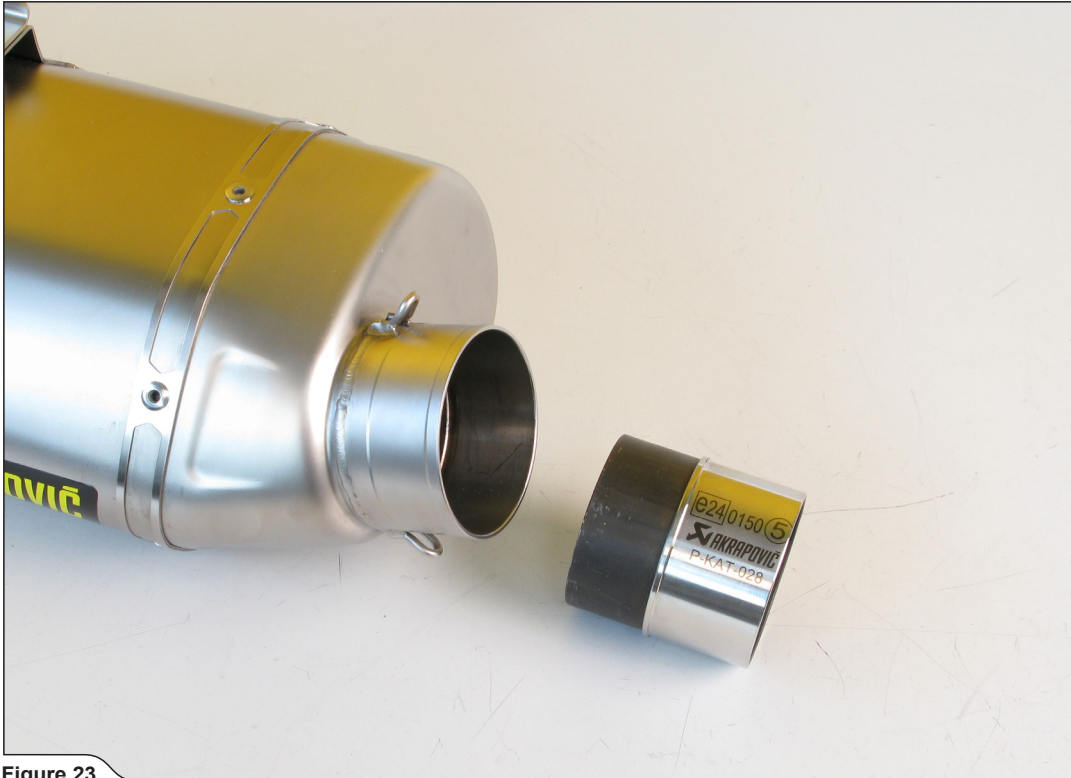

Figure 23
7. For EC Type Approved Racing system only: insert the Akrapovič catalytic converter into the muffler's inlet, as shown (Figure 23, 24).